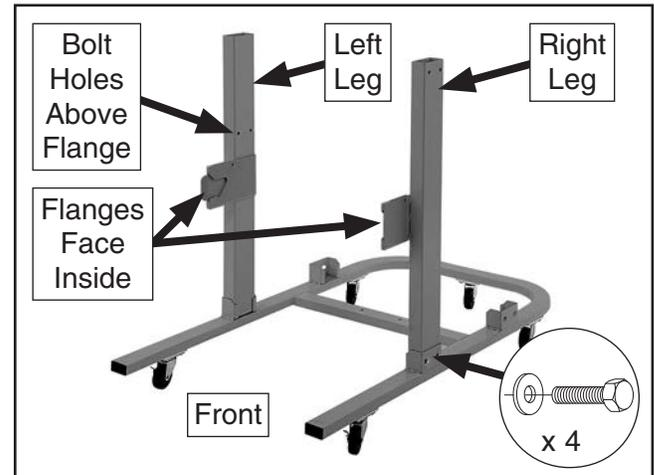

Figure 11. Lower front legs installed.
3. Position lower front legs in base stand with flanges facing inside and two threaded bolt holes above, as shown in **Figure 11**.
4. Secure left and right lower front legs to base stand using (2) $\frac{5}{16}$ "-18 x $\frac{3}{4}$ " hex bolts and (2) $\frac{5}{16}$ " fender washers per leg (see **Figure 11**). Finger-tighten for now.